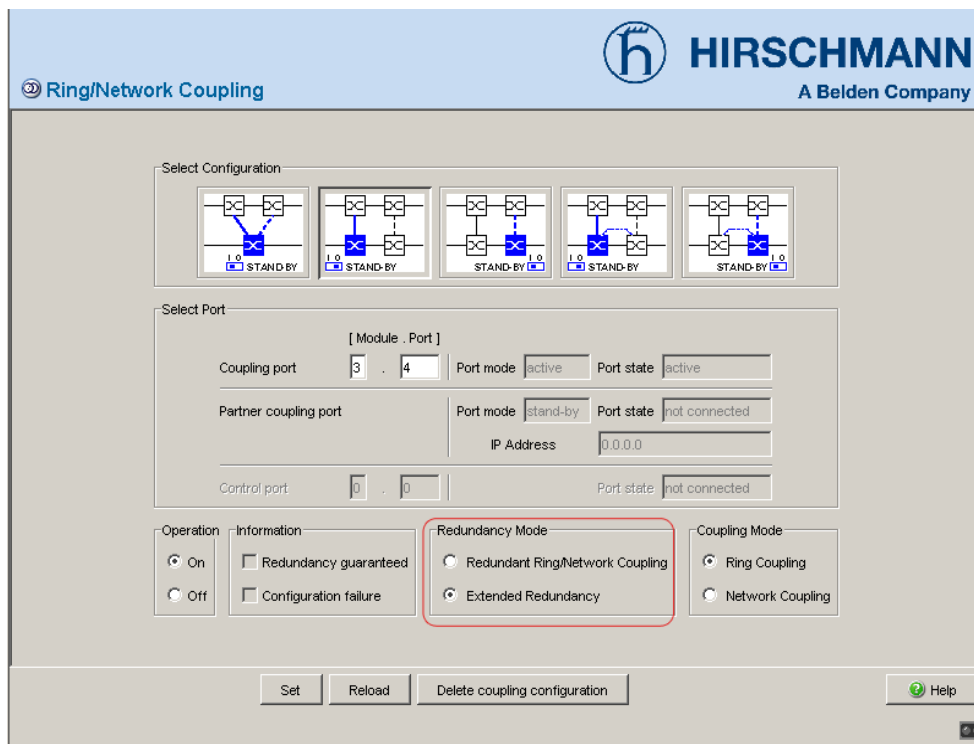

Figure 48: Selecting the redundancy mode
- In the “Redundancy Mode” frame, select (see fig. 48)